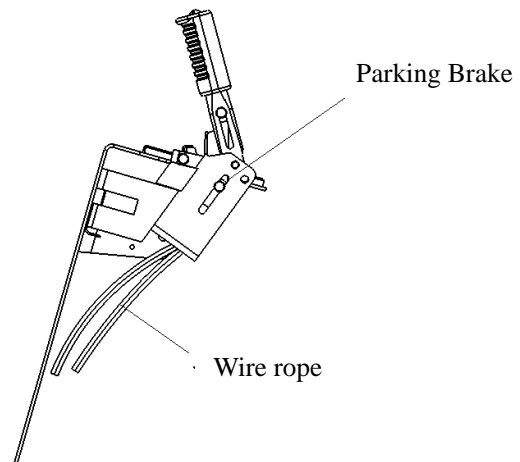

Figure 2-15 Parking brake lever
2.5 Control device of parking brake (Figure 2-15)